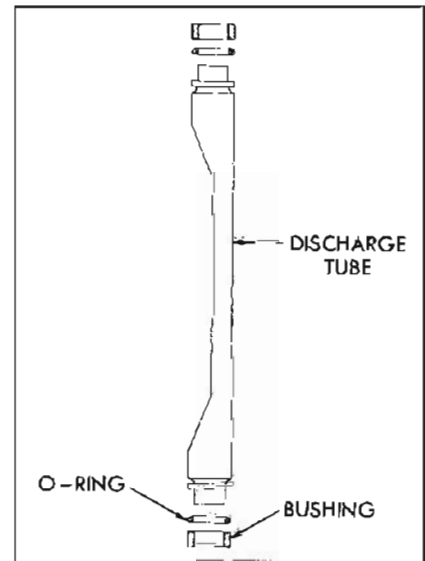

Figure 11-35—Service Replacement Discharge Tube
9. Discharge Tube—The discharge tube is used to connect the discharge cavity in the front head with the discharge port in the rear head. High pressure vapor discharge is channeled via the tube to discharge port. A slightly modified discharge tube is provided to be used as a service replacement tube (see Figure 11-35). The service replacement tube has a reduced end and a built up shoulder to accommodate an “O” ring and bushing. These added parts achieve the necessary sealing of the high pressure vapor within the compressor.